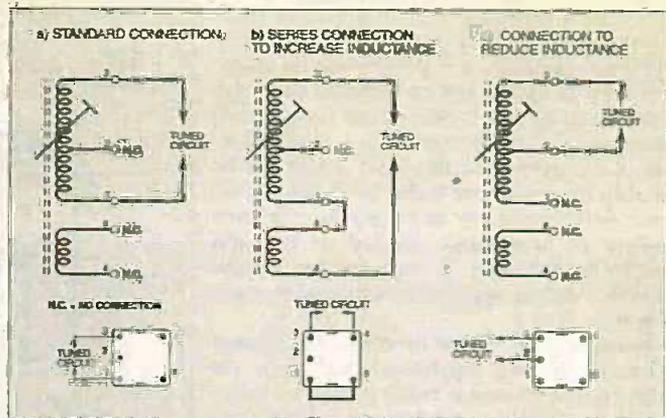

Fig.17. Base connection details for Toko Coils.
Notes: (1) The S18 type coils all have ferrite cores. (2) The figures in brackets are the component values for the Dow and Goral versions. (3) On the 24MHz to 28MHz bands, the 56pF capacitor, C2, is required only for the Goral version. (4) See Fig.17 for base wiring details.
Notes: (1) See Fig.17 for base wiring details.